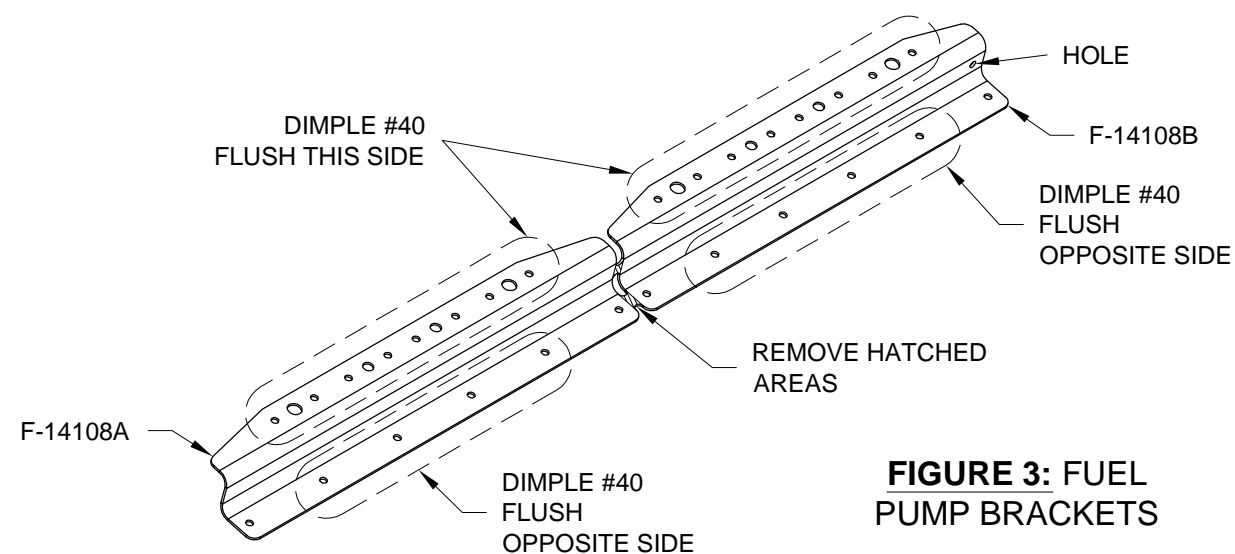

FIGURE 3: FUEL PUMP BRACKETS
Page 28-07 REV 3: Updated Figure 3 for new configuration of F-01435-L.
Step 3: Separate the F-14108A & B Fuel Pump Brackets as shown in Figure 3. Note the additional hole in the F-14108B bracket.
Dimple the #40 holes in the F-14108A & B Fuel Pump Brackets as shown in Figure 3. **DO NOT** dimple the nutplate center holes.